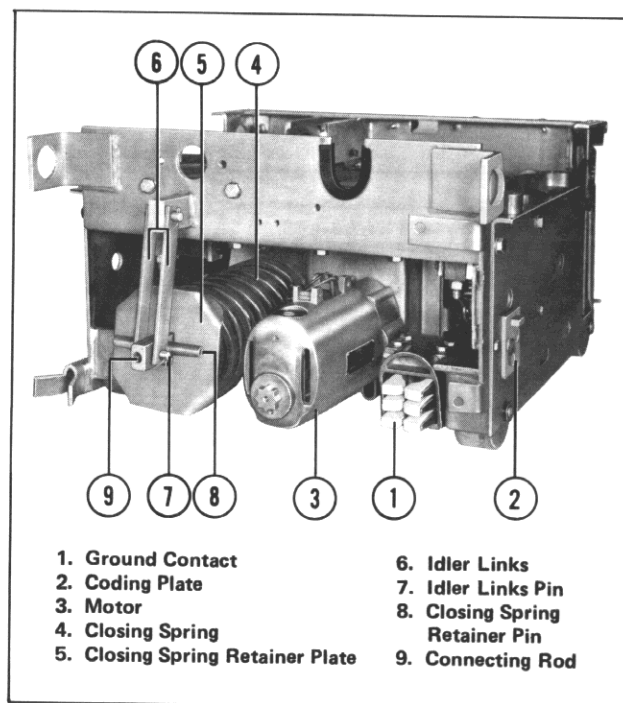

Fig. 38 4.76 kV Chassis - Rear View C
To change the closing spring, refer to Figs. 38 and 39 and proceed as follows:
5. Hold stud firmly and remove idler links and pin. Items 6 and 7, Fig. 38.